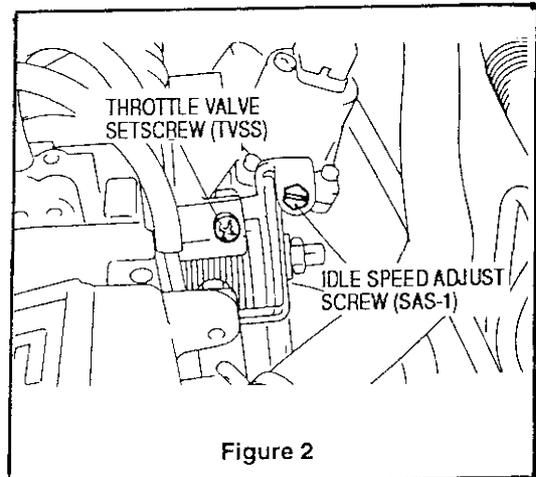

Figure 2
2. For vehicles with an idle speed control (ISC) motor, figure 2: